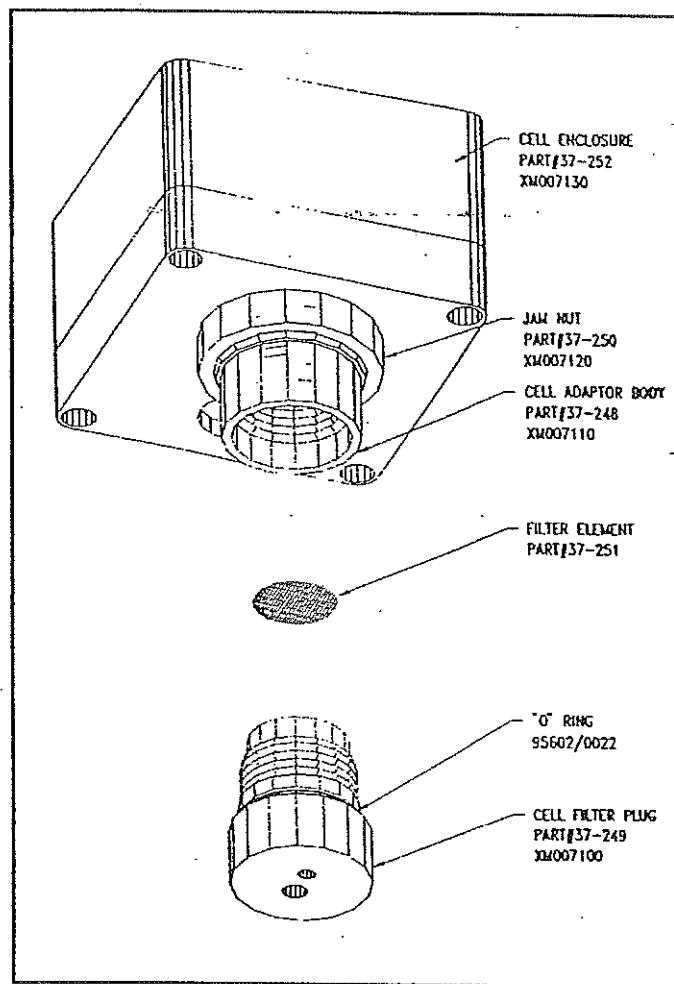

FIGURE 16-4 CO MONITOR FILTER HOUSING PARTS
This filter housing has two parts, an adaptor that mates with the sensor cell, and a threaded plug that holds the filter element in place. Figure 16-4 shows an exploded view of the several parts required to convey the sample stream to the sensor cell, hold the filter screen in place, and permit filter screen removal for cleaning.
- 1) Remove the sample tubing from the hose barb, item (8) Figure 16-4.
- 2) Unscrew item (6), Figure 16-4. The filter element will fall out of the housing.